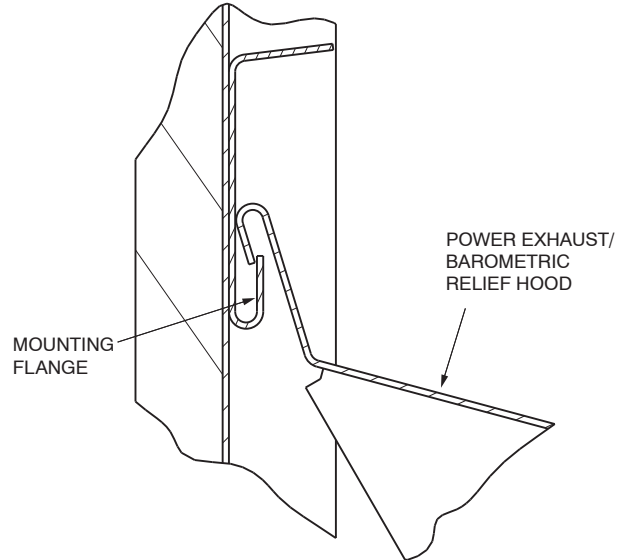

Fig. 16 - Barometric Relief/Power Exhaust Hood Flange
5. Align hole in flange of economizer panel with left edge of hood. Hang economizer hood on the top flange of the economizer panel by rotating hood until top flange of the economizer panel engages the bent flange on the economizer panel. Rotate hood until hood is flush with the economizer panel. Hood will support itself from flange. Align holes in hood with holes in panel and secure hood to panel with screws saved from Step 2. (See Fig. 16 and 17.)